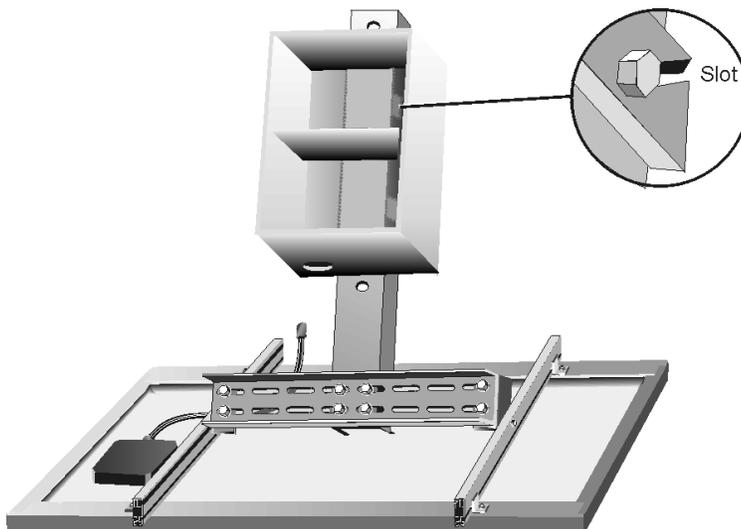

Figure 13 Attaching the Battery Box to the Mounting Adaptor
3. Position the battery box on the mounting adaptor so the slots on the tabs point upward when the PV panel is inverted, as shown in Figure 13.